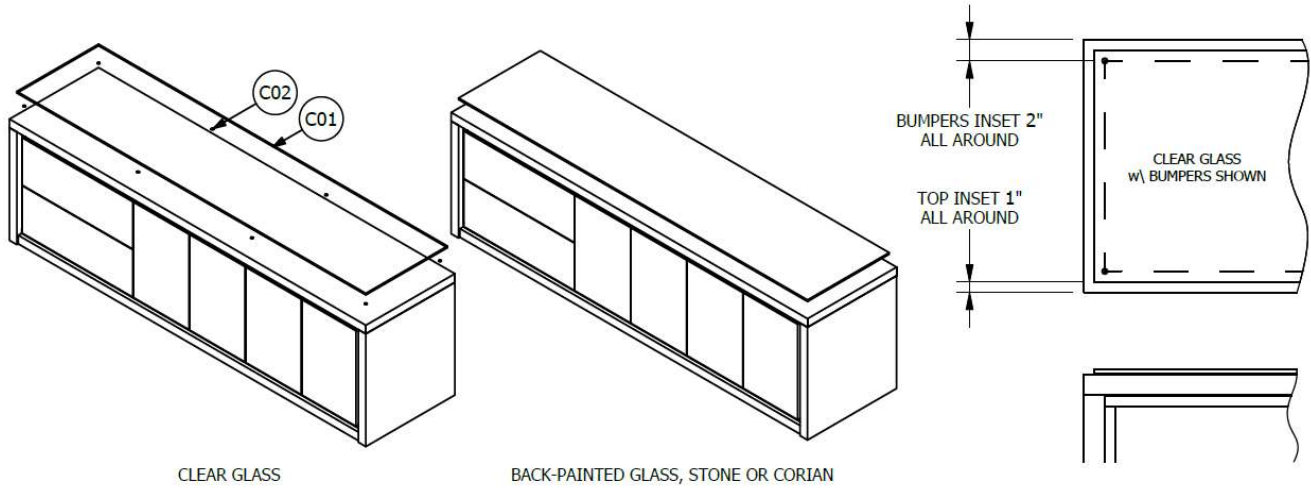

FIG. 06:
1. Peel and stick Bumpers (C02), placing one in each corner of the Credenza inset approximately 2" to the center of the Bumper. Then (Spaced equally) stick the remaining bumpers along the length of the Credenza. See Figure 06.
2. Place Clear Glass Top (C01) on Bumpers, centered on Credenza and inset 1" on all sides. See Figure 06.
1. Using small dabs of Silicone (C03) around the perimeter, secure Top (C01) centered on Credenza and inset 1" on all sides. See Figure 06.